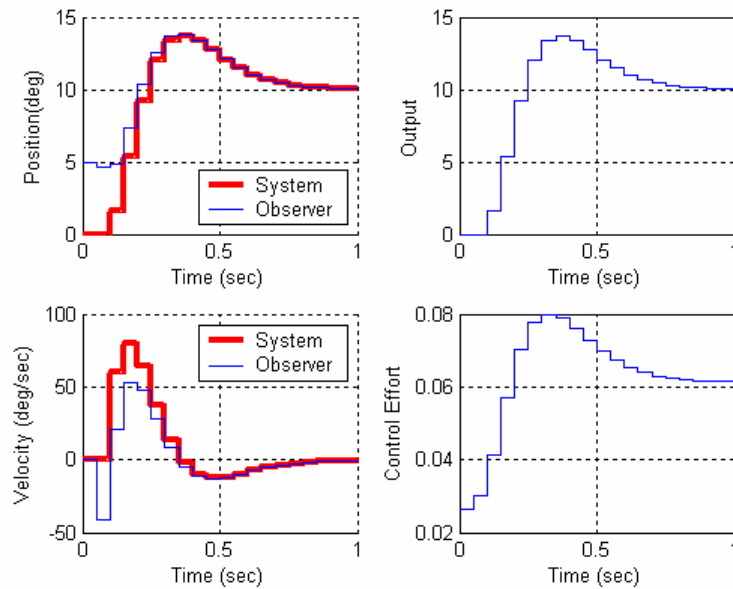

Figure 1. Results for problem 1c.
c) Place both the state feedback and observer poles all at 0.5 (yes, this is a bad design) The output of the system is the position of the first disk and this is also the output available to the observer ($C = C_y$ in this case). The disk is initially estimated to be at 5 degrees (be careful of units here! The model works in radians.). The initial estimates of the velocity and delayed control signal are zero. The real system starts at rest (all initial conditions are zero.) For a 10 degree step input you should get the graph shown in Figure 1. Turn in your plot.